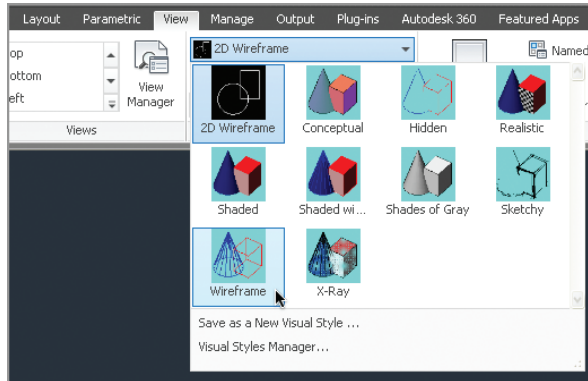

FIGURE 16.2 Selecting a visual style
3. Select the ribbon’s View tab, and open the Visual Styles drop-down menu at the top of the Visual Styles panel (see Figure 16.2).